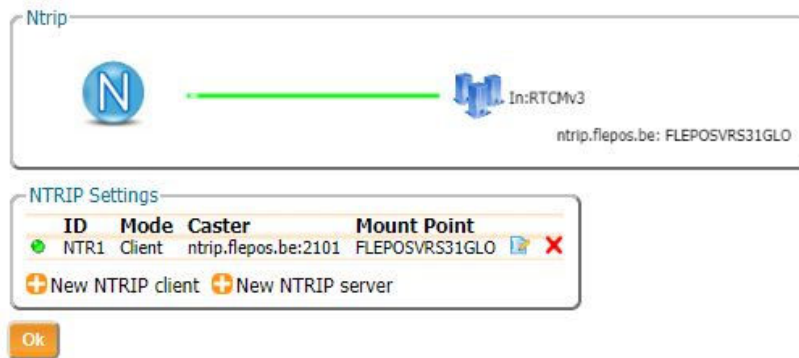

Figure 4-5: Receiving differential corrections via NTRIP
- If the configuration is correct, the graphic should show a green line to the NTRIP Caster, indicating a successful connection with the NTRIP Caster, as in Figure 4-5, with details of the correction stream.